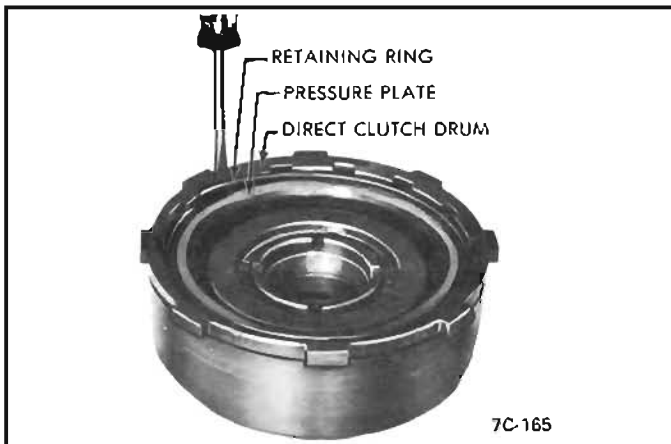

Figure 56 Direct Clutch Disassembly
5. Remove direct clutch pressure plate to clutch drum retaining ring and pressure plate. *See Figure 56.*
6. Install direct clutch pressure plate and retaining ring. See Figure 56.